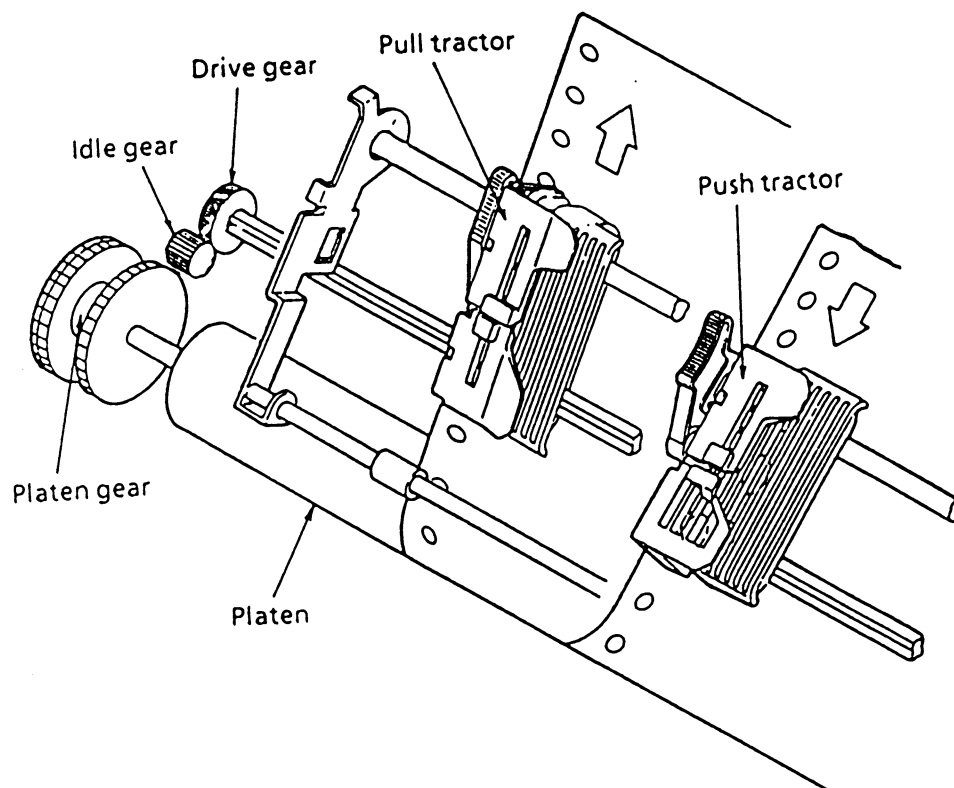

Figure 3-11
(4) Push and pull tractor mechanism (Option) (See Figure 3-11)